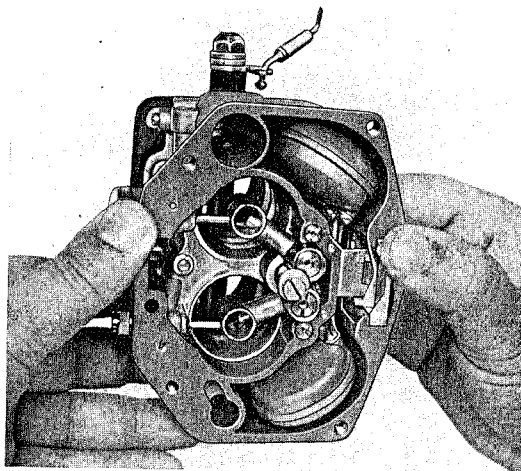

Fig. 23
3. Insert float into float housing. Allow float to oscillate (see fig. 23), then check whether floats touch float housing. If necessary, rebend floats carefully.